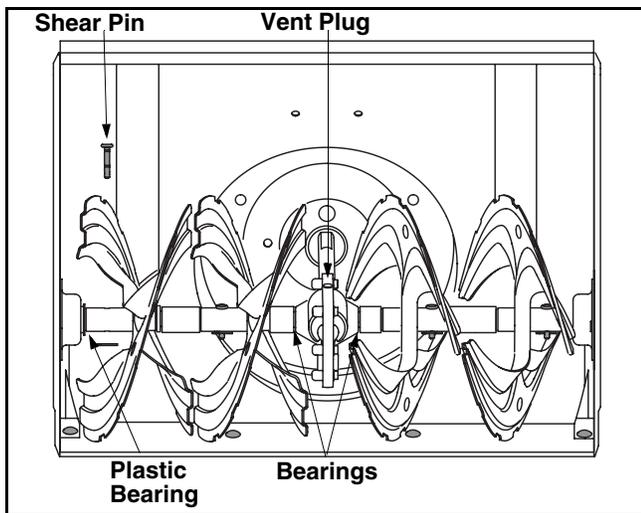

Figure 15
- At least once a season, remove the shear pins from the auger shaft and spray lubricant inside the shaft. See Figure 15.
Every season lubricate the auger bearings and the bearings on the side of the frame with light oil. See Figure 15.